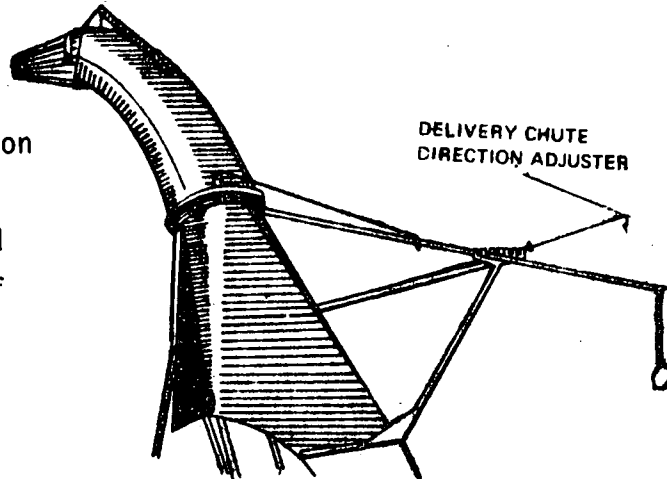

Fig. 3
- c) Adjust the direction of the delivery chute (Fig. 3) and the inclination of the flap.